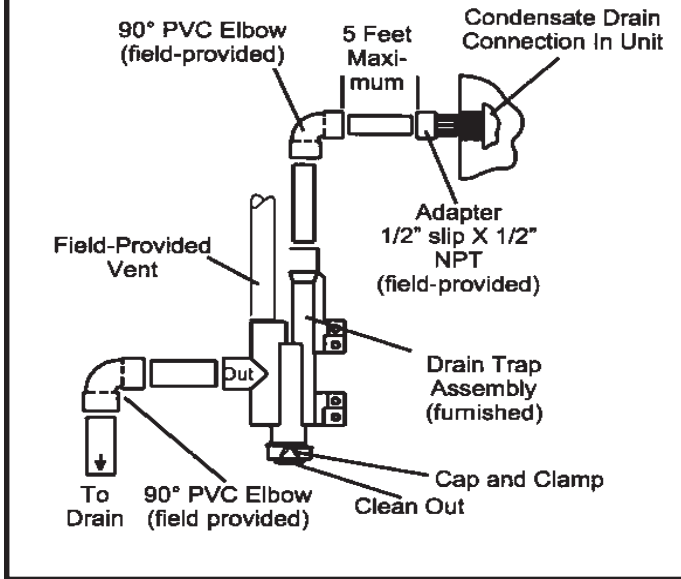

Figure 33
3. Install the cap over the clean out opening at the base of the trap. Secure with clamp. See Figure 33.
4. Install drain trap using appropriate PVC fittings, glue all joints. Glue the provided drain trap as shown in Figure 33. Route the condensate line to an open drain. *Condensate line must maintain a 1/4" downward slope from the furnace to the drain.*